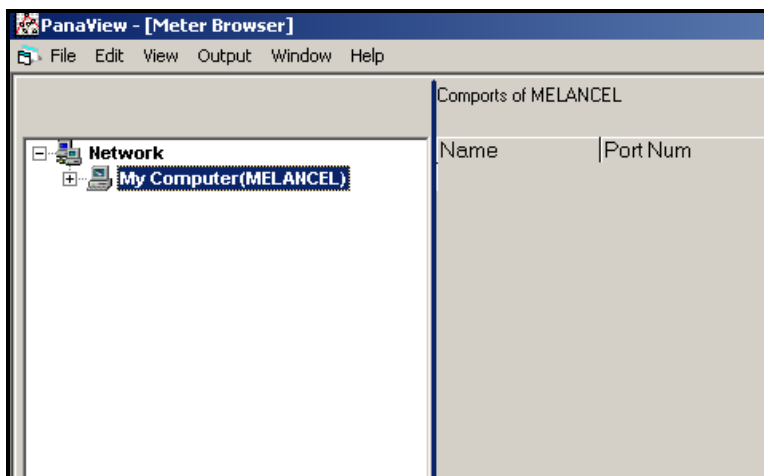

Figure 27: The My Computer Branch
1. Expand the *network* branch by clicking on the “+” sign to its left. Then, highlight the *My Computer(Name)* branch and the *Meter Browser* window will look like Figure 27.
**Note:** The right pane in Figure 27 lists all of the communication ports, along with their configuration parameters, that are currently assigned to the named computer. If this is the initial meter setup, the list is empty.